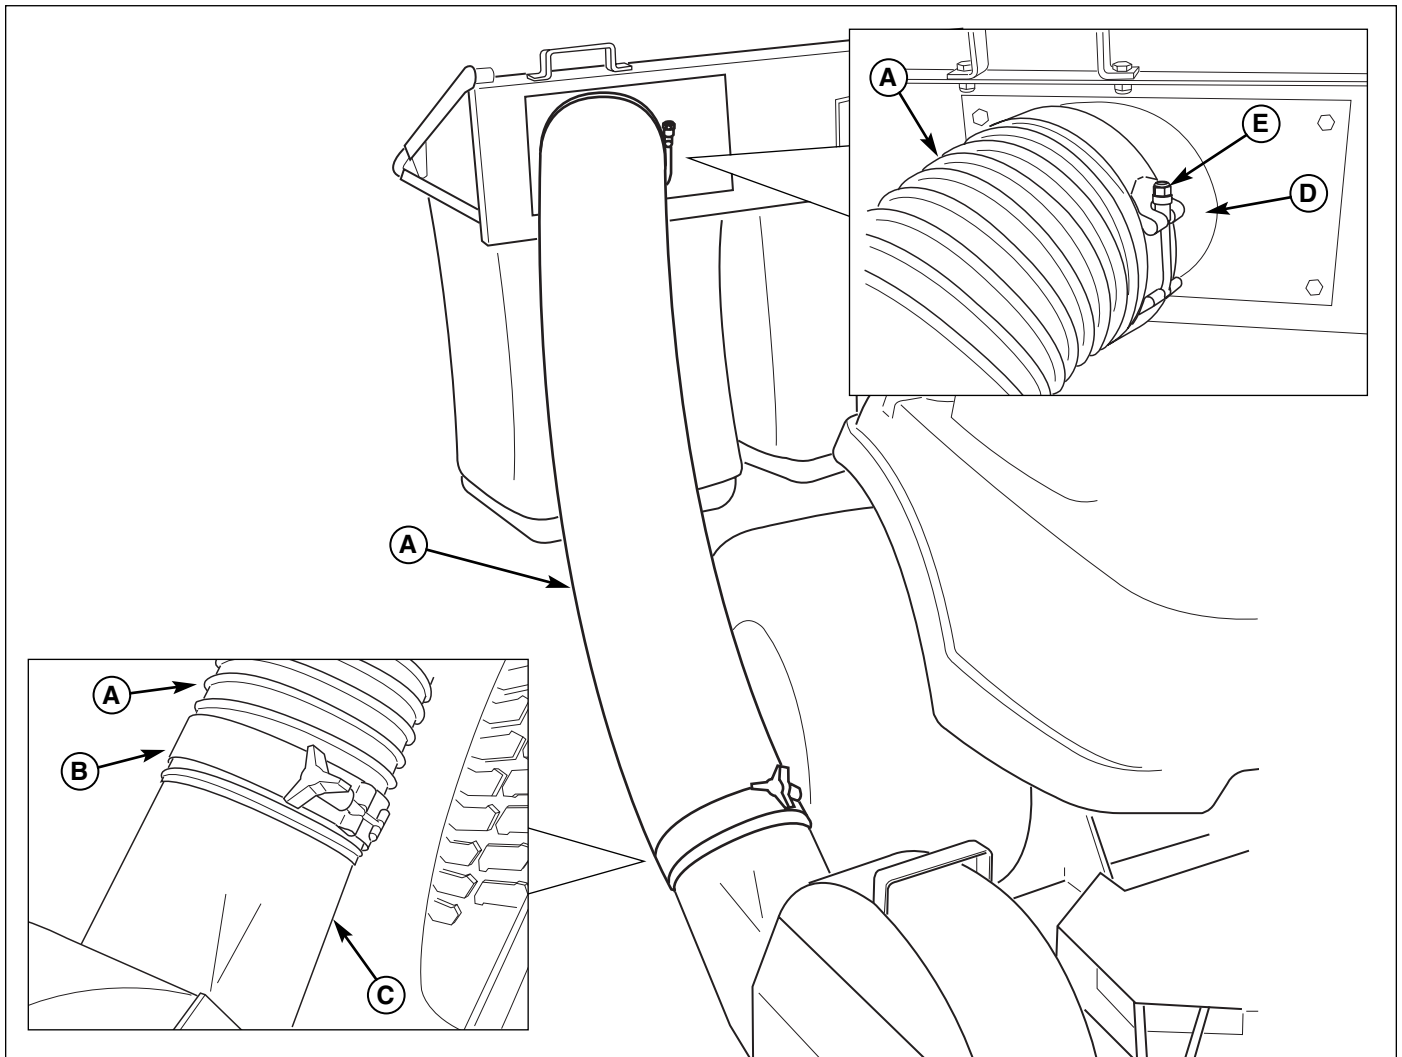

Figure 27. Install Hose
2. See Figure 27. Install the hose (A) onto the blower and secure with the removable clamp (with knob) (B). At least two bands must cover the outlet of the blower (C).
3. Cut the hose to fit properly between the blower and collector as shown in Figure 27. At least two bands must cover the inlet of the collector (D). Secure with the stationary clamp (E).